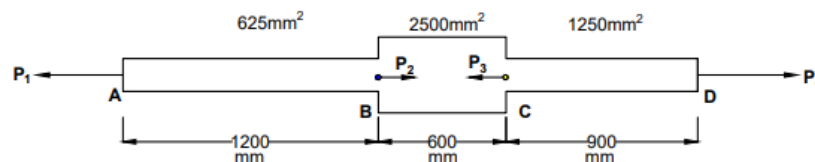

Fig. 1
2. (a) A member ABCD is subjected to point loads, P_1 , P_2 , P_3 , and P_4 as shown in Fig.1. Calculate the force P_2 necessary for equilibrium if $P_1 = 45$ kN, $P_3 = 450$ kN, $P_4 = 130$ kN. Determine the total elongation of the member assuming the modulus of elasticity to be 2.1×10^5 N/mm². [[C02](Remember/LOCQ)]